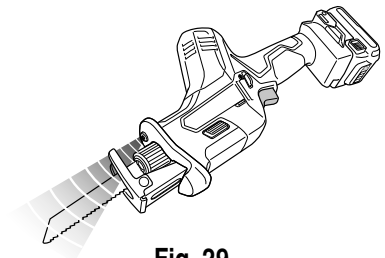

Fig. 29
7. LED light warning signals (**Fig. 29**)